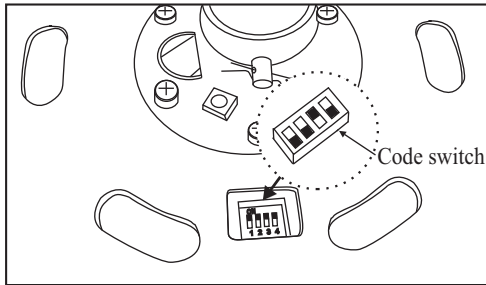

Figure 17
1. The receiver frequency selector is located on the top of the motor assembly plate as show in Fig. 17.